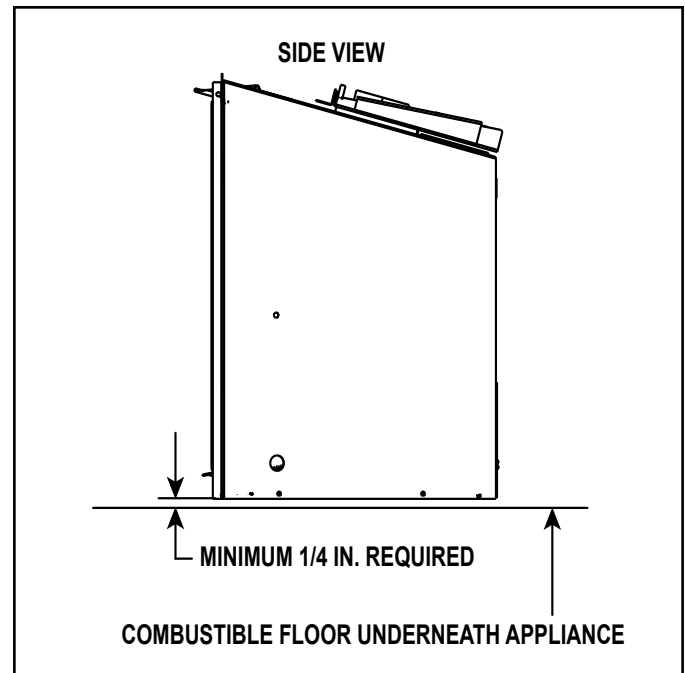

Figure 3.19 Solid Fuel Floor Clearance
- A minimum 1/4 inch gap from the bottom of the appliance to the metal floor of the solid fuel firebox is **REQUIRED**. See side view in Figure 3.19.
- Combustible flooring underneath the appliance is acceptable with a 1/4 inch gap. See Figure 3.19.